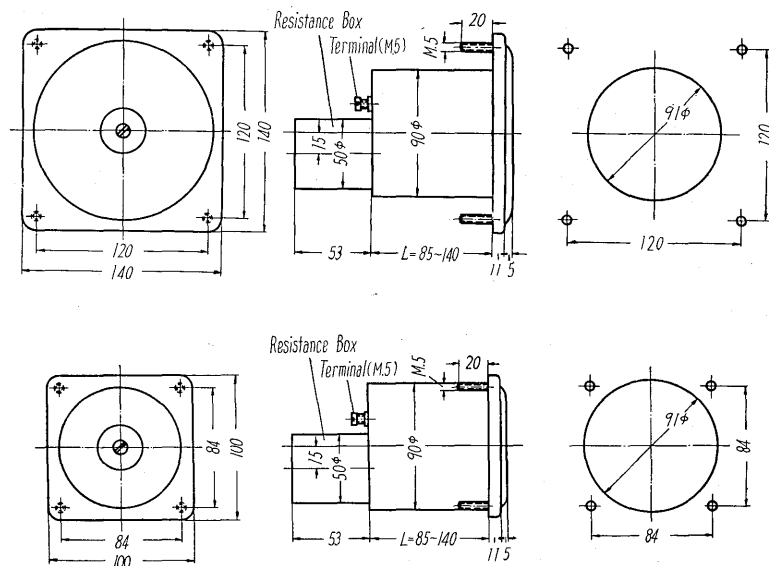

Fig. 2. Outline Dimensions and Drilling Plans of Wide Angle type Instruments
(5) The characteristics fully satisfy the general conditions required for the 1.5 class or 1.0 class of accuracy in JIS-C-1102.
(6) The outline dimension is as in Fig. 2. Installation is easily done by five round holes, in spite of they being of the flush type.